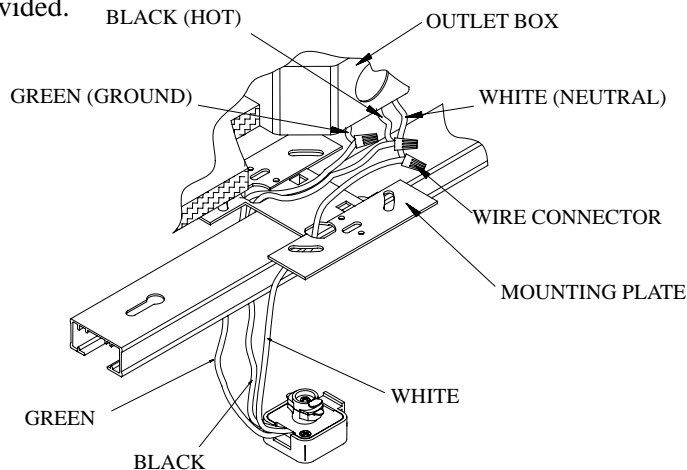

FIG. 4
2. Connect the white wire (neutral or common) from the supply circuit to the white wire from the floating live-end connector. Connect the black (hot) wire from the supply circuit to the black wire from the floating live-end connector. Connect the green or bare copper ground wire from the supply circuit to the green conductor of the floating live-end connector. Secure splices with UL Listed wire connectors suitable for the size, type and number of conductors. (see Figure 4.)